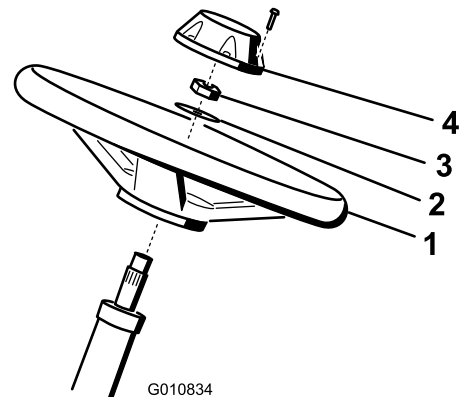

Figure 3
1. Slide the steering wheel onto the steering shaft (Figure 3).
2. Slide the washer onto the steering shaft (Figure 3).
3. Secure the steering wheel to the shaft (Figure 3) with a jam nut and tighten it to 27 to 35 N·m (20 to 26 ft-lb).
4. Install the cap to the steering wheel and secure it with a screw (Figure 3).